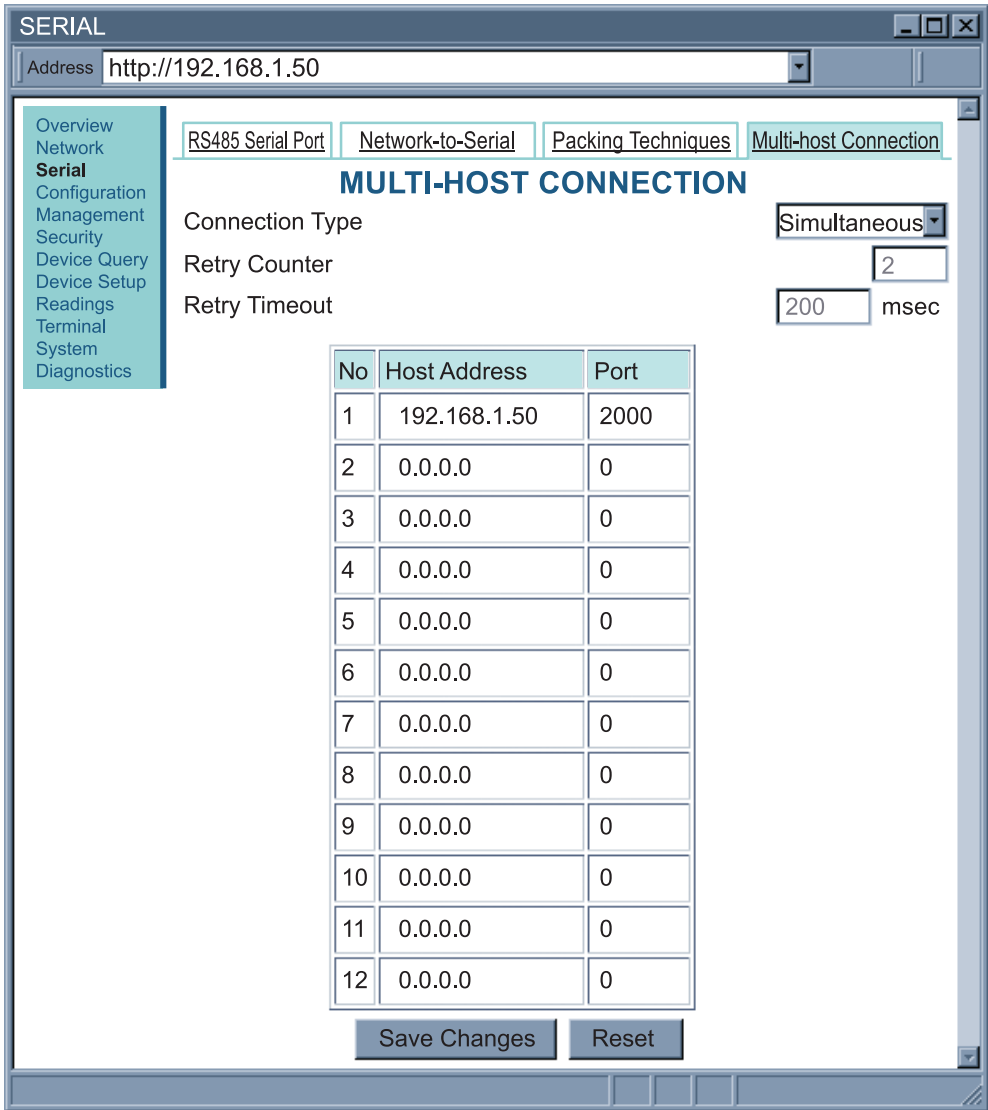

Figure I-3 SERIAL - Multi-Host Connection (-C4EIT)
s Is the configuration command, used to set a new setting (see the example in **Figure I-3**)
7. Under *Multi-host* section (see **Figure I-3**), set the **Connection Type** to **Simultaneous/ Sequential**, enter the **Remote IP address** (would be the IP address of the remote iServer, 192.168.1.50), and use the default **Remote Port** number **2000**.